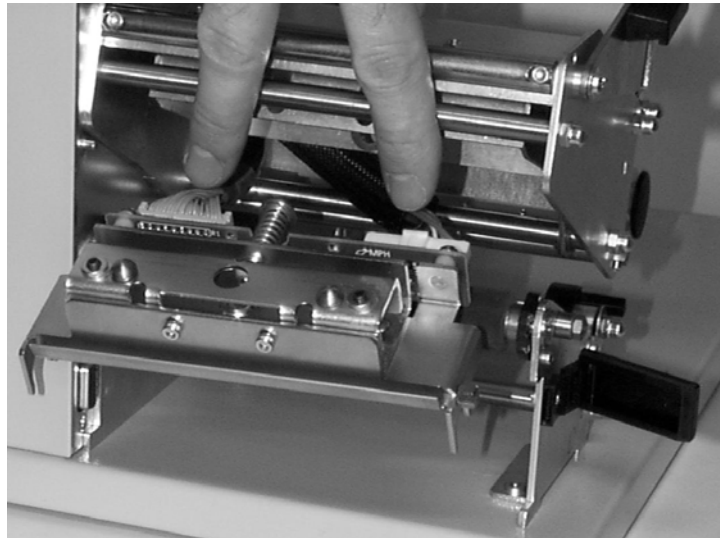

Fig. 6 – Connecting the print head
- Attach all cables to the corresponding connectors (see Fig. 6).